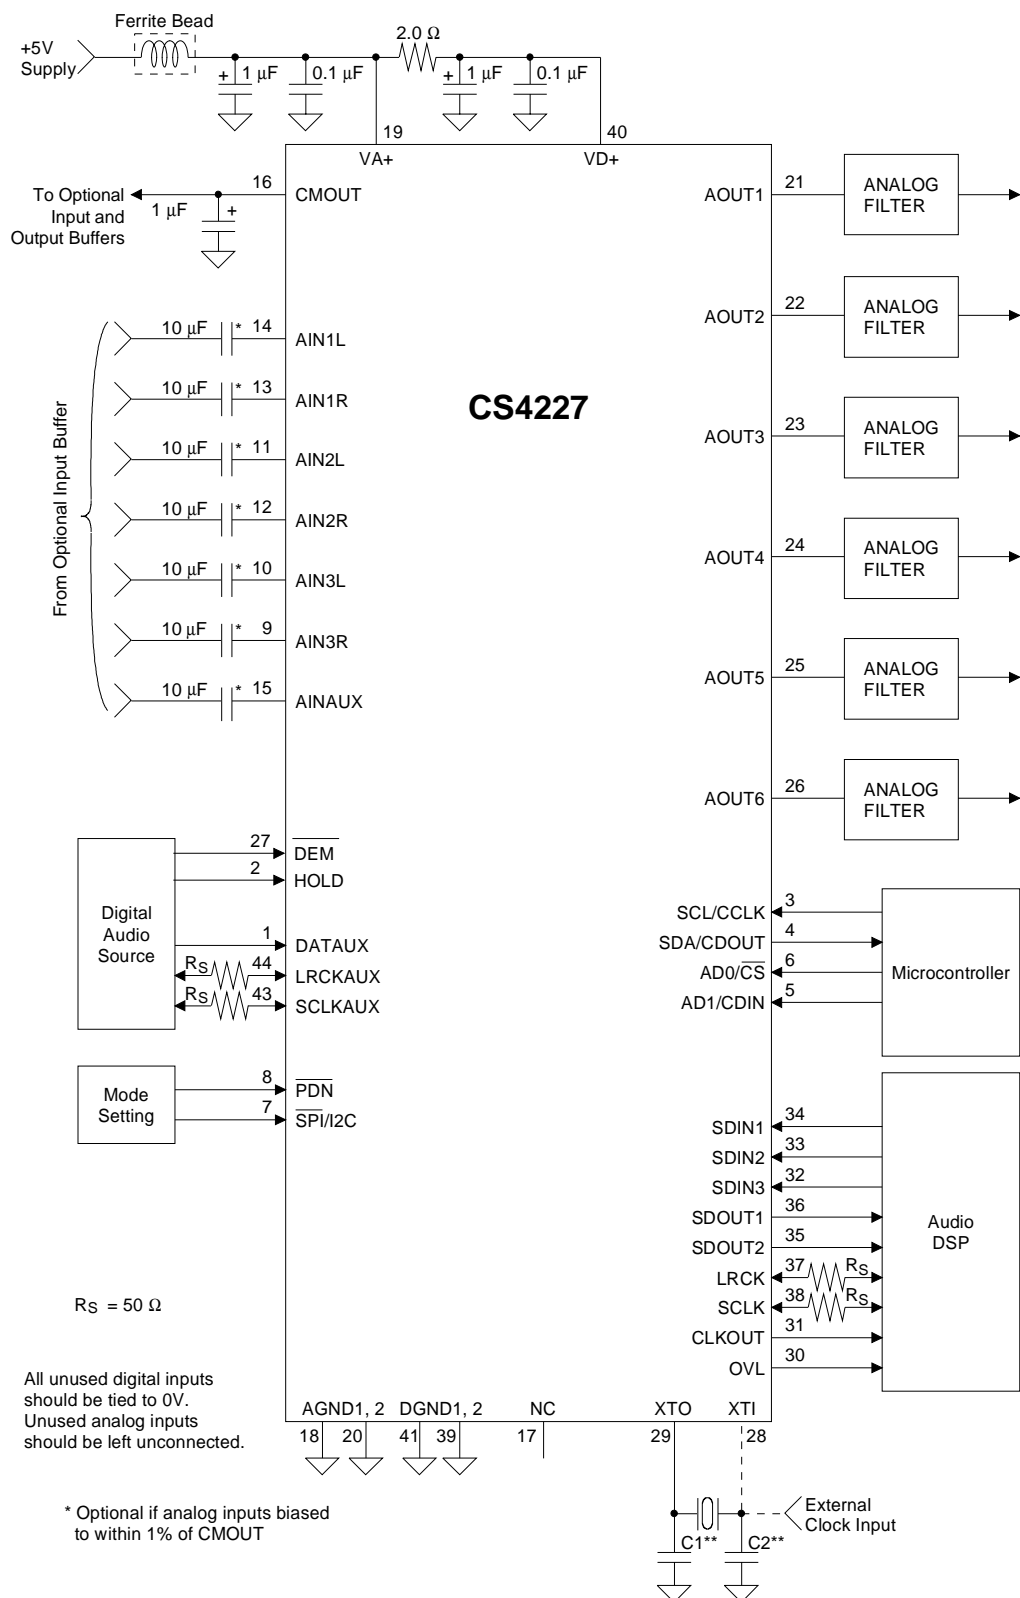
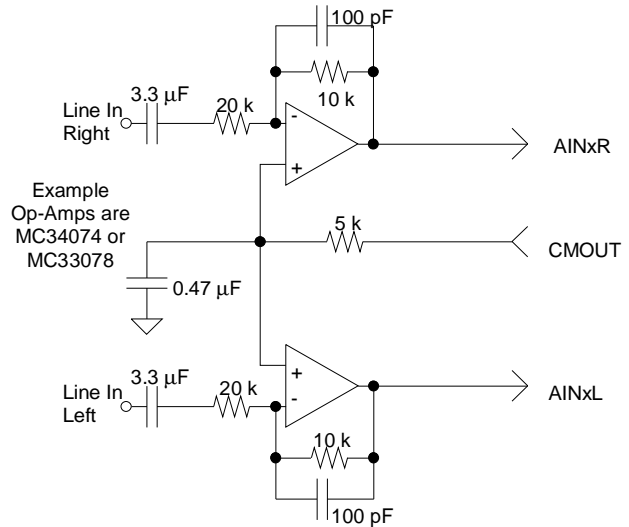

Figure 5. Recommended Connection Diagram
Figure 6. Optional Line Input Buffer
AIN1R, AIN1L, AIN2R, AIN2L, AIN3R, AIN3L and AINAUX are the line level input pins (See Figure 5). These pins are internally biased to the CMOUT voltage (nominally 2.3 V). A 10 μ F DC blocking capacitor allows signals centered around 0 V to be input. Figure 6 shows an optional dual op amp buffer which combines level shifting with a gain of 0.5 to attenuate the standard line level of $2 V_{rms}$ to $1 V_{rms}$. The CMOUT reference level is used to bias the op-amps to approximately one half the supply voltage. With this input circuit, the 10 μ F DC blocking caps in Figure 5 may be omitted. Any remaining DC offset will be removed by the internal high-pass filters.
The CS4227 requires a high frequency master clock to run the internal logic. The clock enable bit (CE) must be set to 0 after power-up of the device (see Power-up/Reset/Power Down Mode section). A high frequency crystal can be connected to XTI and XTO, or a high frequency clock can be applied to XTI. This high frequency clock can be 256 Fs, 384 Fs or 512 Fs; this is set by the CI0/1 bits in the Clock Mode Byte (#1). When using the on-chip crystal oscillator, external loading capacitors are required (see Figure 5). High frequency crystals (>8 MHz) should be parallel resonant, fundamental mode and designed for 20 pF loading (equivalent to 40 pF to ground on each leg).